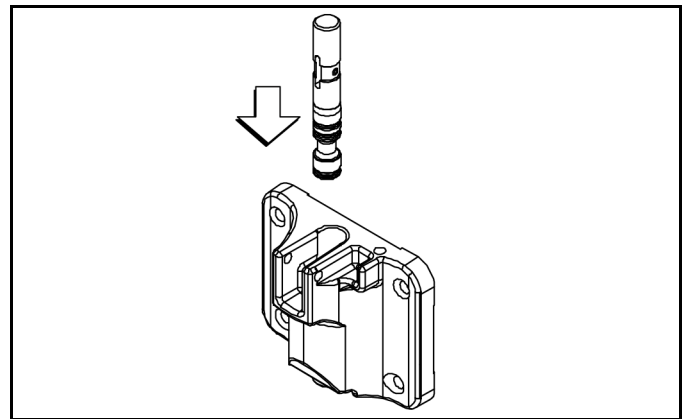

Figure-137
- Insert the draw valve from the top, with the draw handle slot facing forward. (See Figure-137.)